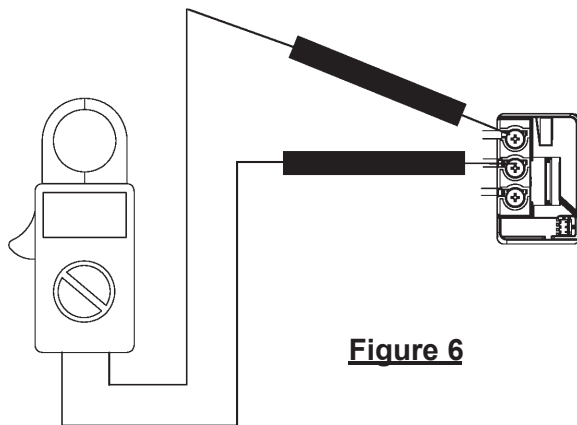
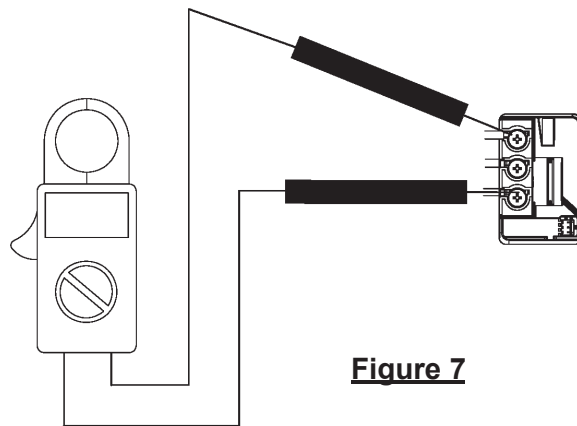

Figure 6
Figure 7
5. Check resistance between terminals 1 and 2 (Figure 6), as well as terminals 1 and 3 (Figure 7) on the Power Switch Module. This should read somewhere between 25M Ω -150M Ω depending on the quality of multimeter used.